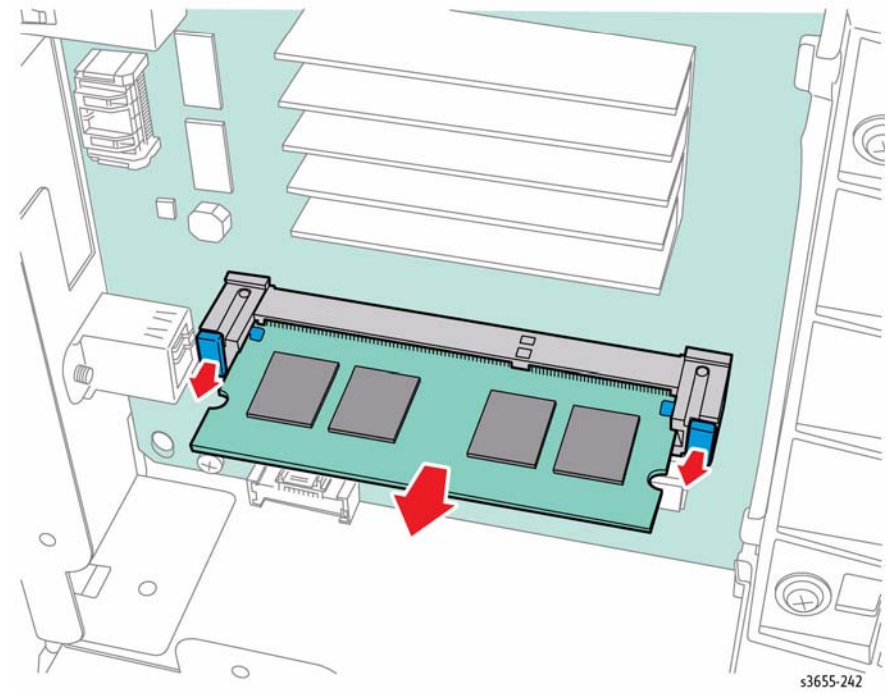

Figure 1 Remove the RAM
7. Refer to Figure 1 to locate and release 2 clamps that secure the RAM to the socket on the ESS Board, then gently remove the RAM.